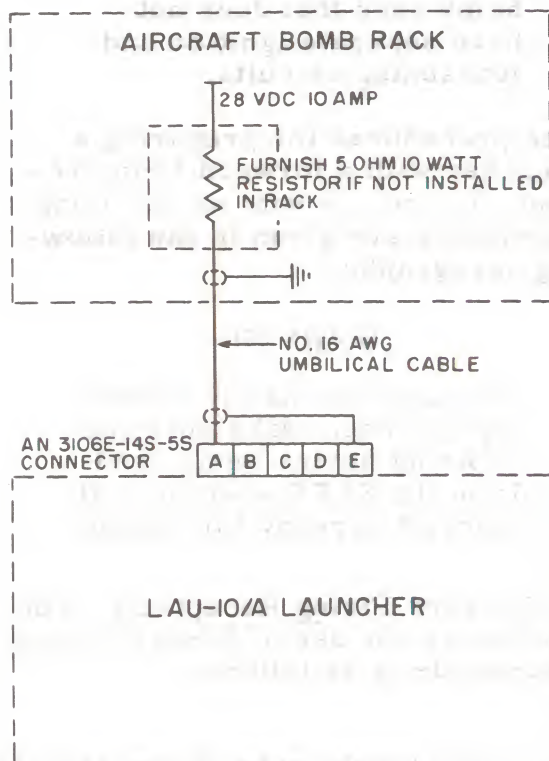

Figure 19 - Umbilical Cable Between Aircraft Bomb Rack and LAU-10/A Launcher.
**Aft Firing Receptacle.** For all other bomb racks, such as the Aero 20A, Aero 7A, and the Mk 51, an umbilical cable, not supplied, between aircraft bomb rack and launcher, figure 19, must be used.